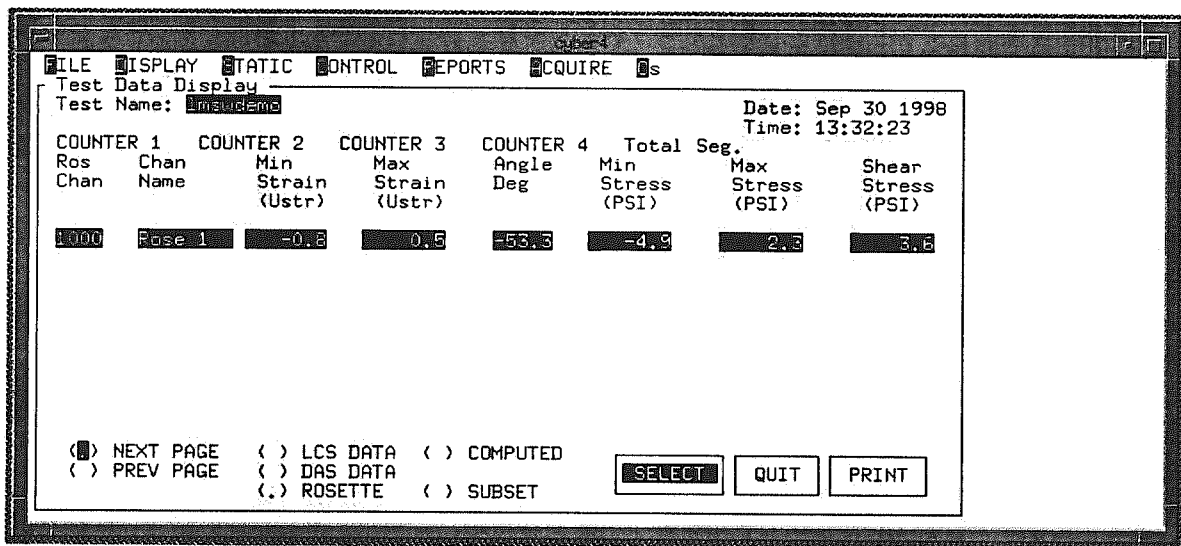

Figure 11-5. Rosette Test Data Display
- Step 2:** Select the **ROSETTE** radio button and press **[RETURN]**. The screen shown in **Figure 11-5** is displayed.